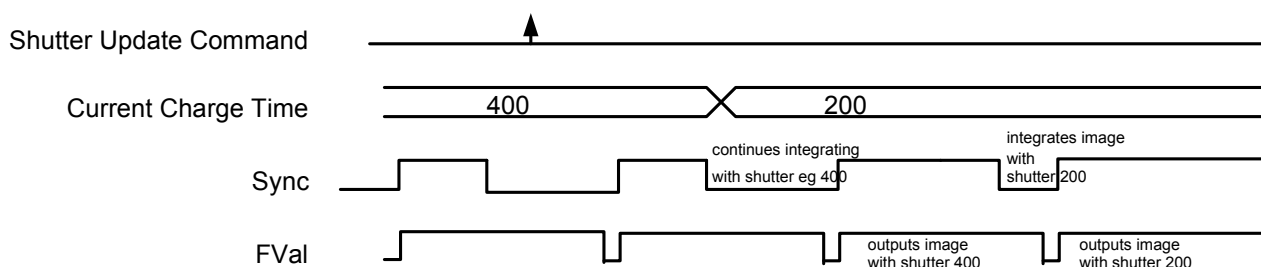

Figure 80: Former standard timing
- The delay from shutter update until the change takes place: up to 3 frames. Figure 80: Former standard timing on page 136 demonstrates this behavior. It shows that the camera receives a shutter update command while the sensor is currently integrating (Sync is low) with shutter setting 400. The camera continues to integrate and this image is output with the next FVal. The shutter change command becomes effective with the next falling edge of sync and finally the image taken with shutter 200 is output with a considerable delay.